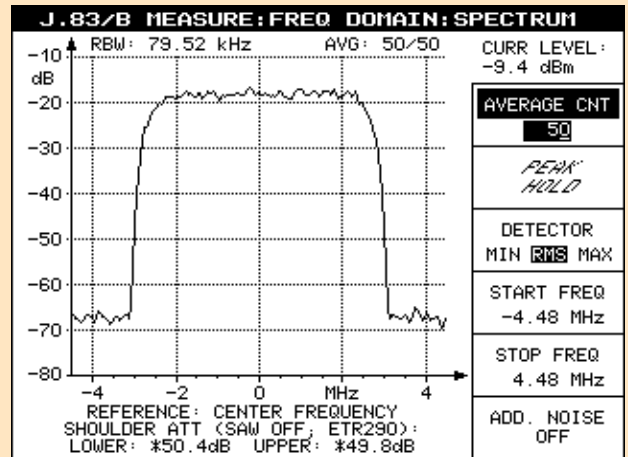

Fig. 17: Amplitude and phase frequency response
- ◆ Complex channel transmission function (Fig. 17)